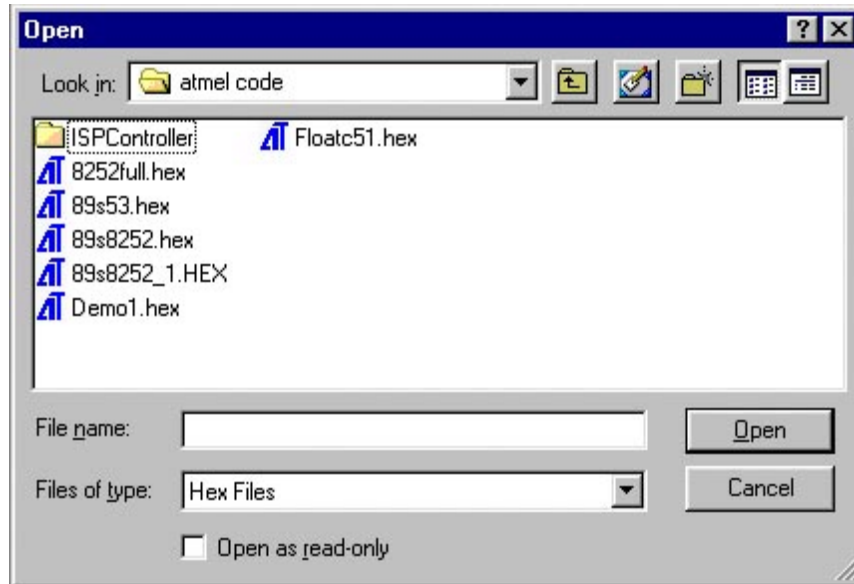

Figure 4 - Load Buffer Dialog
1. Select **Load Buffer** from the **File** menu or click  on the toolbar. You will see a dialog similar to Figure 4.